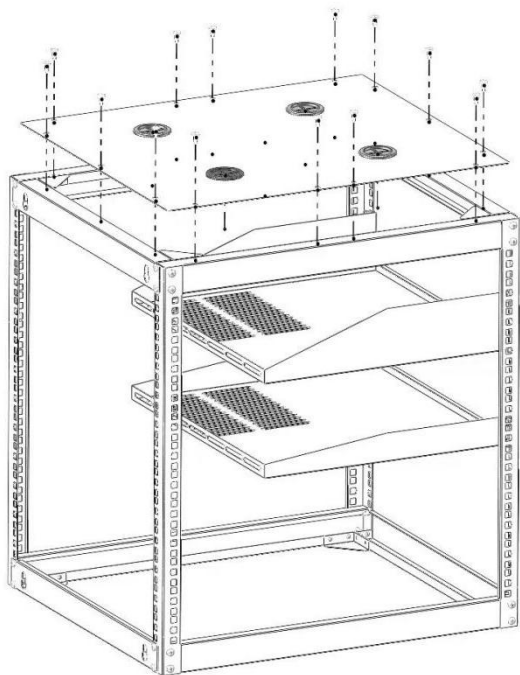

Figure 4
4. Place Top panel(⑤) on the Enclosure. Secure with 14pcs M5*10 Self-tapping screws(⑧) on the Top panel using Electric screwdriver. (Figure 4).